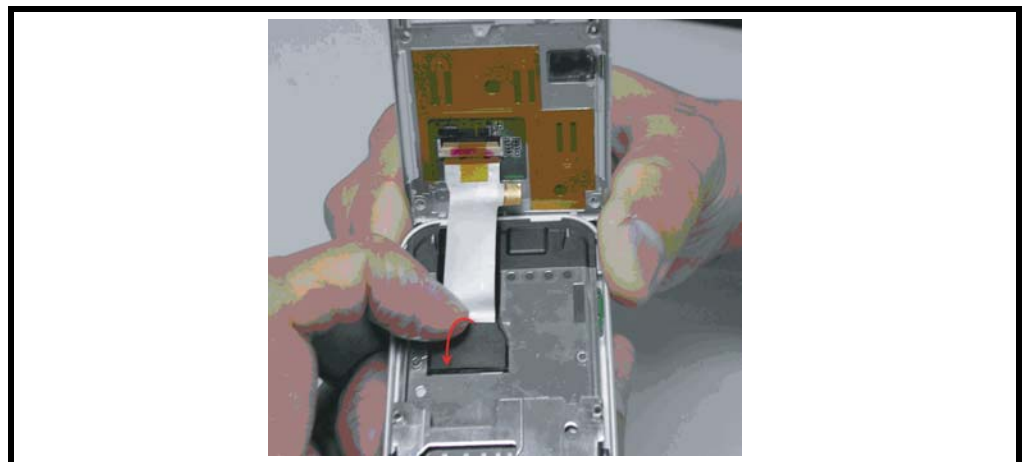

Figure 11. Removing the Rubber Cap
5. Remove the Rubber Cap by fingernail illustrated in Figure 11.